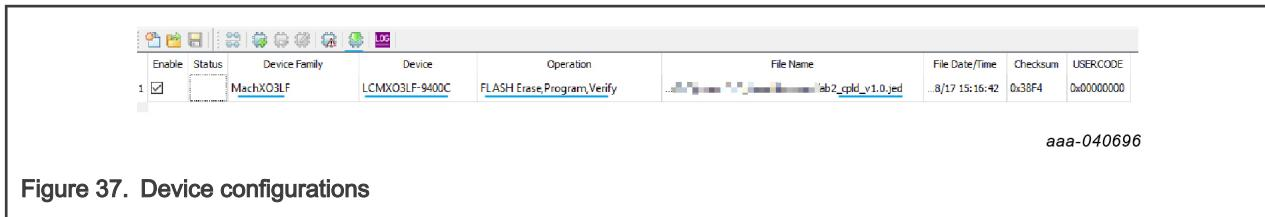

**Figure 36. Selecting the port**
8. Select a suitable port in the new dialog box. In most cases, it is A. If the communication fails, use another port. For details, see Figure 36.